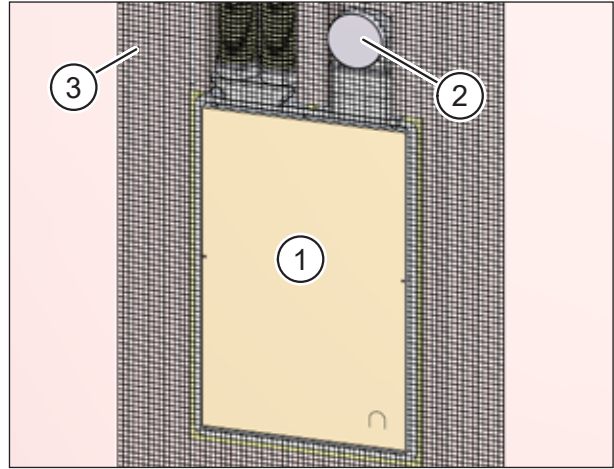

Fig. 31: Plastering the installation kit and flat ductwork / flexible pipes on the inside
- ▶ Make sure that the plaster cover (item 1 in Fig. 31) is seated in the wall box.
- ▶ Use adhesive tape to cover over the extract air and supply air outlets (item 2 in Fig. 31).
- ▶ Apply the plaster scrim M-WRG-II PG (item 3 in Fig. 31) to the installation kit and the solid wall.